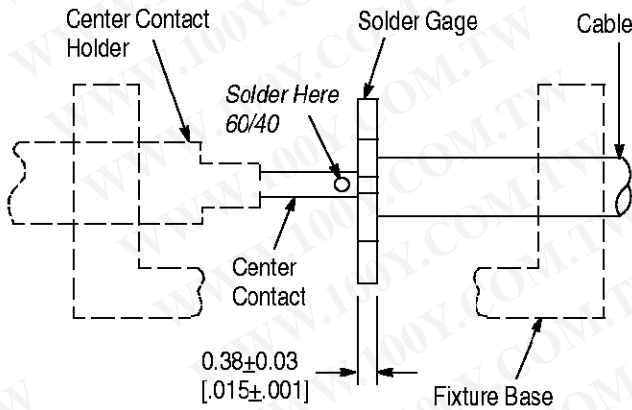

Figure 4
**3.2. Soldering of Center Contact to Cable Inner Conductor** (Figure 4)